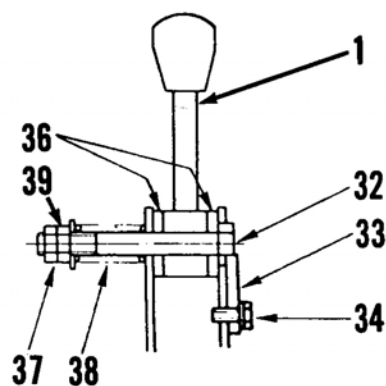

Fig. 51—Rear view of forward speed control components. Refer to text.
To adjust forward speed control components proceed as follows: Loosen locknut (12—Fig. 50) and turn turnbuckle (13) until dimension (D) is 6-8 mm (15/64-5/16 inch), then retighten locknut (12). Loosen locknut (37—Fig. 51) and turn adjuster nut (39) to adjust tension on spring (38) until force required to operate lever (1—Fig. 50) in "R" direction is 25-30 N (5.5-6.6 lbs.), then retighten locknut (37—Fig. 51).